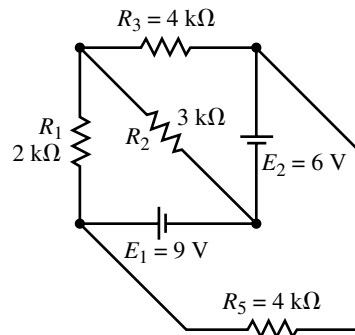

FIGURE 8-87
32. Repeat Problem 31 for the network in Figure 8-87.